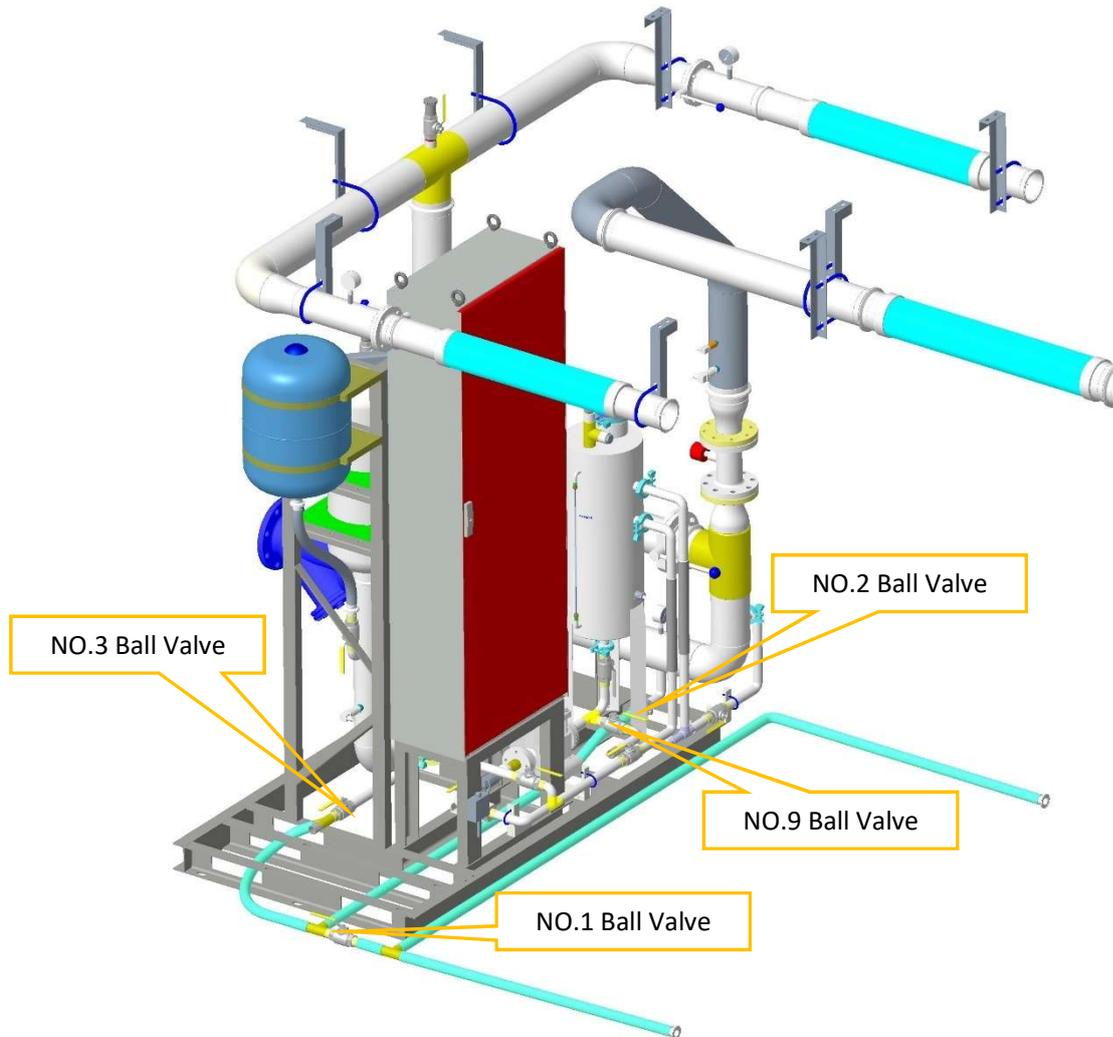

Figure 8-3-5 Filling/discharging valve for the pump station inside the container
- a) Locate the position of NO.1-3 Ball Valve and NO.9 Ball Valve. (See Figure 8-3-5)